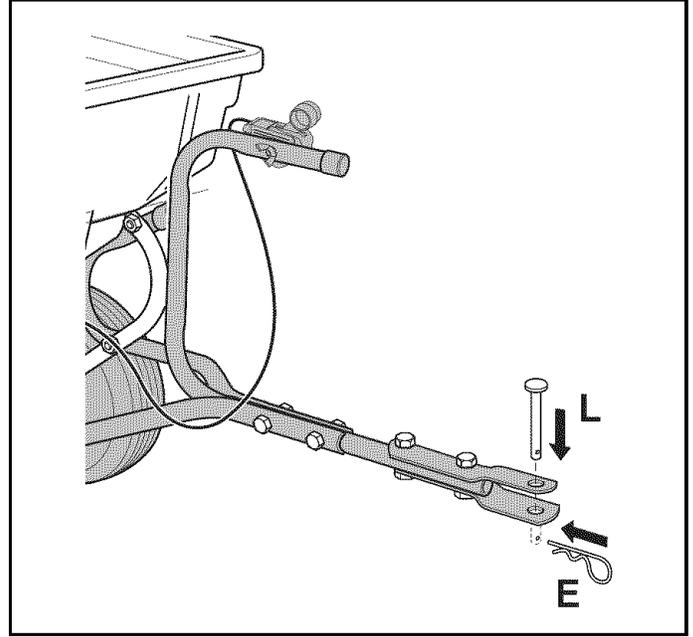

FIGURE 10
- Assemble the hitch pin (L) through the hitch brackets and secure with the 1/8" hair cotter pin (E). See figure 10.